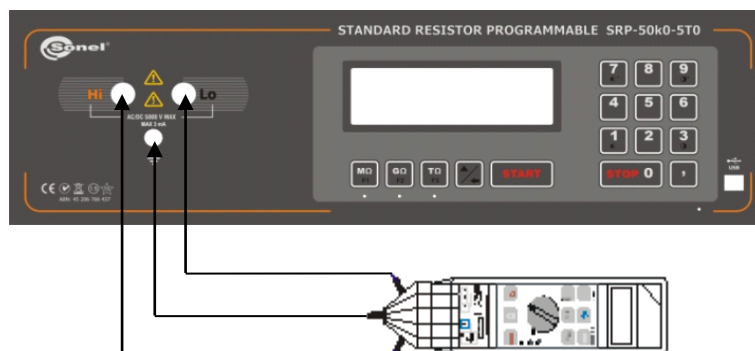

Figure 3 Connecting the meter to the calibrator
- ③ Connect the tested meter to the measuring circuit (see Figure 3). The calibrator is in standby mode, no resistance values are set (see Figure 4).